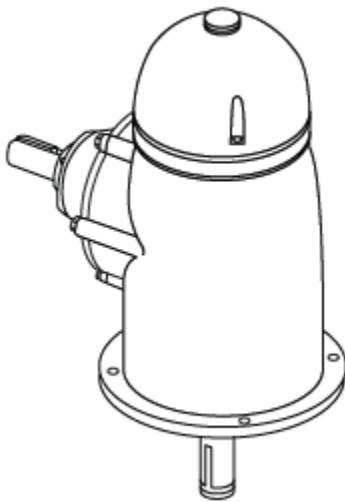

FIGURE 22 – Right Angle Gear Drive
***If you have a solid shaft driver as in Figure 22, skip this portion and be guided by subsection Vertical Solid Shaft.***